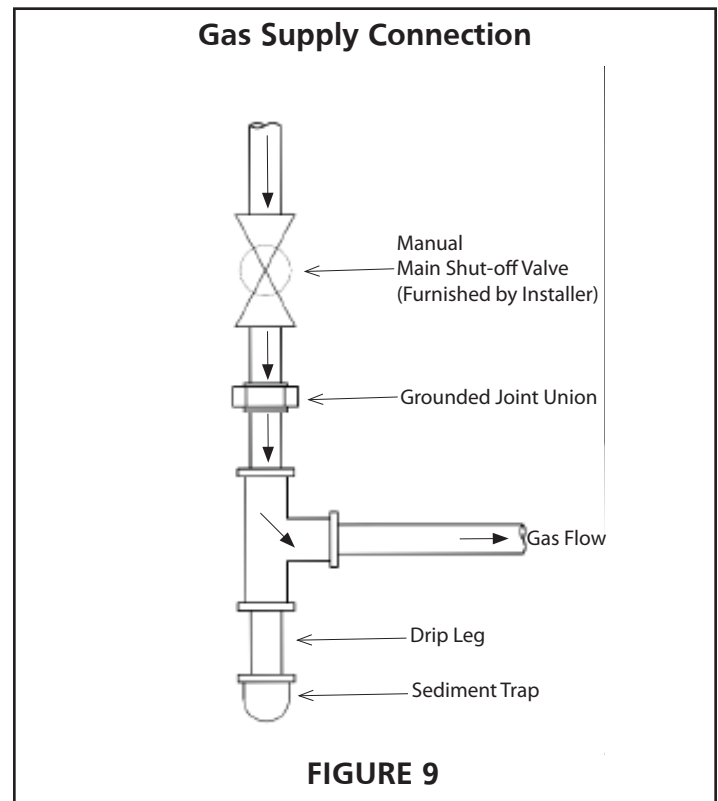

FIGURE 9
- A sediment trap meeting the typical requirements of Figure 9 shall be installed in the line to the gas valve.
- A drip leg should be installed in the vertical pipe run to the unit. In some localities, codes may require that a manual main shutoff valve and union (furnished by installer) be installed external to the unit. Union must be of the ground joint type. A drip leg should be readily accessible to permit cleaning and emptying. See Figure 9.
Before leak testing, close the field installed manual shut off valve shown on Figure 9 on the supply line to isolate the gas valve from the pressure.